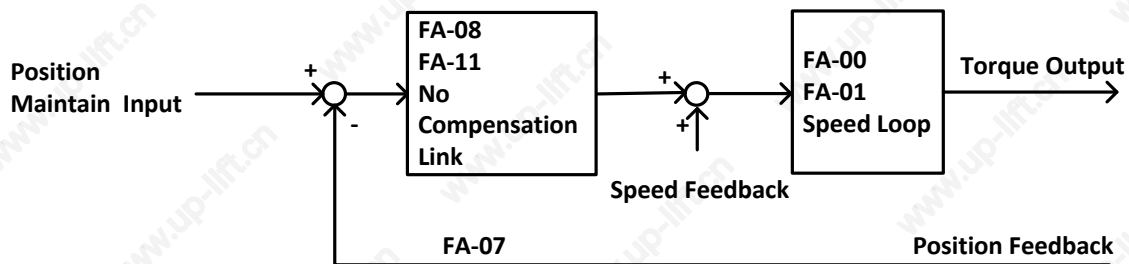

FIGURE 6.16 FLOWCHART FOR ELEVATOR STARTING WITHOUT LOAD COMPENSATION
- 1) Principles: As can be seen in Figure 6.16 below, when brake open, based on the position feedback from Sine/Cosine PG card, system can calculate the necessary torque required for motor to remain the steady position under current load, and it gives corresponded torque at once to minimize the traction sheave movement and to achieve comfortable start.